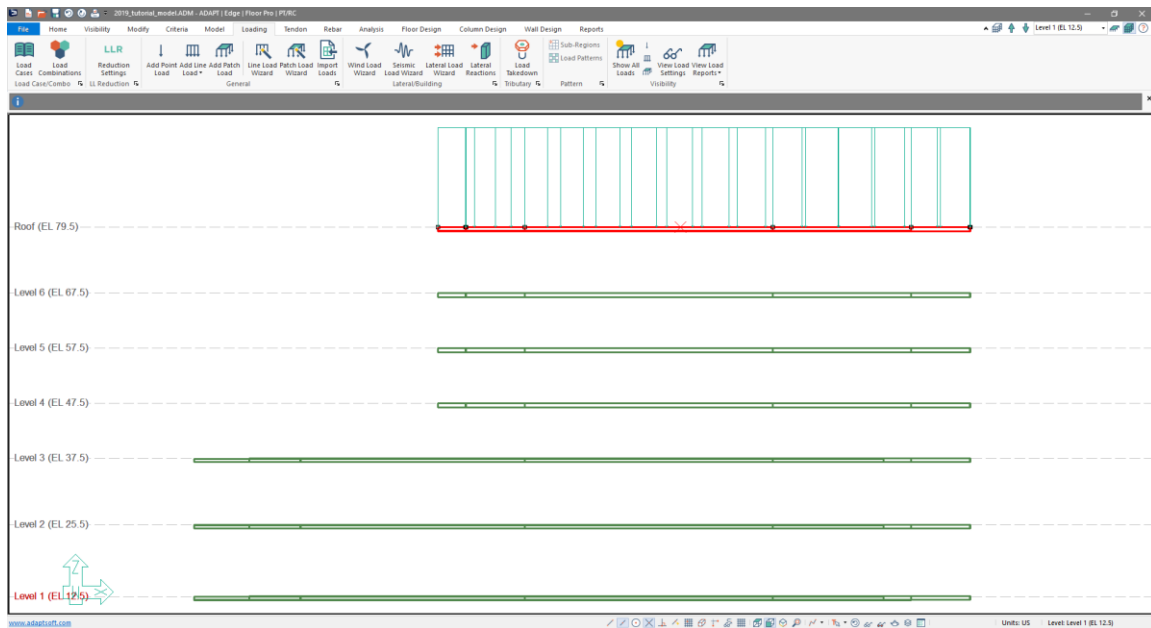

Figure 7-20
- The user will now see green lines representing the projection of the load as shown in **FIGURE 7-20**. We have applied a 20psf area load to the Roof Level slab under the *RLL* case.